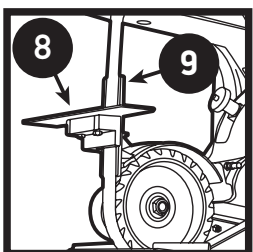

Figure 6
10. Attach chain saw bar grinding table with two bolts to the vertical platen. (Figure 6).